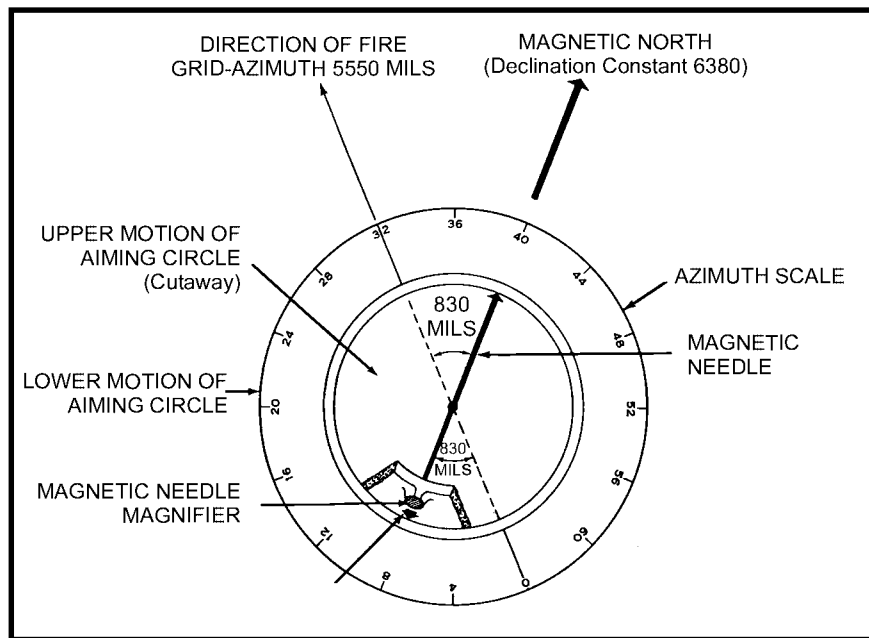

Figure 2-8. Aiming circle oriented in desired direction of fire.
- d. Release the compass needle. Look through the window in the cover housing and rotate the instrument until the needle floats freely using the orienting knob throw-out mechanism. For fine adjustments, use orienting knobs until the magnetic needle is exactly centered on the etched marks on the magnifier. Relock the compass needle to orient the 0-3200 line of the aiming circle on the mounting azimuth; in this case, grid azimuth of 5550 mils (Figure 2-8, page 2-16).